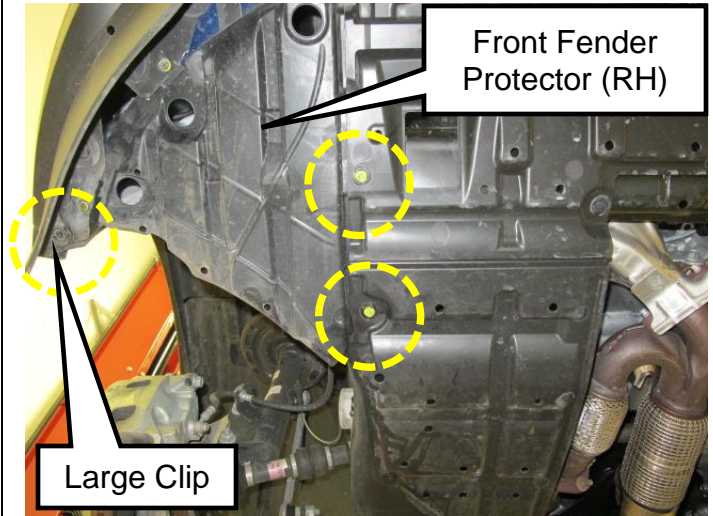

Figure 6
6. Remove (3) retainer clips from the bottom of front fender protector (RH).
- Clips are highlighted in yellow in Figure 6